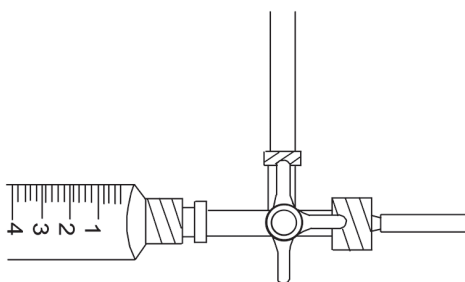

Figure A-3
2. Turn the stopcock to connect the manometer to the Codman Hakim Valve and SiphonGuard Device (Figure A-3).